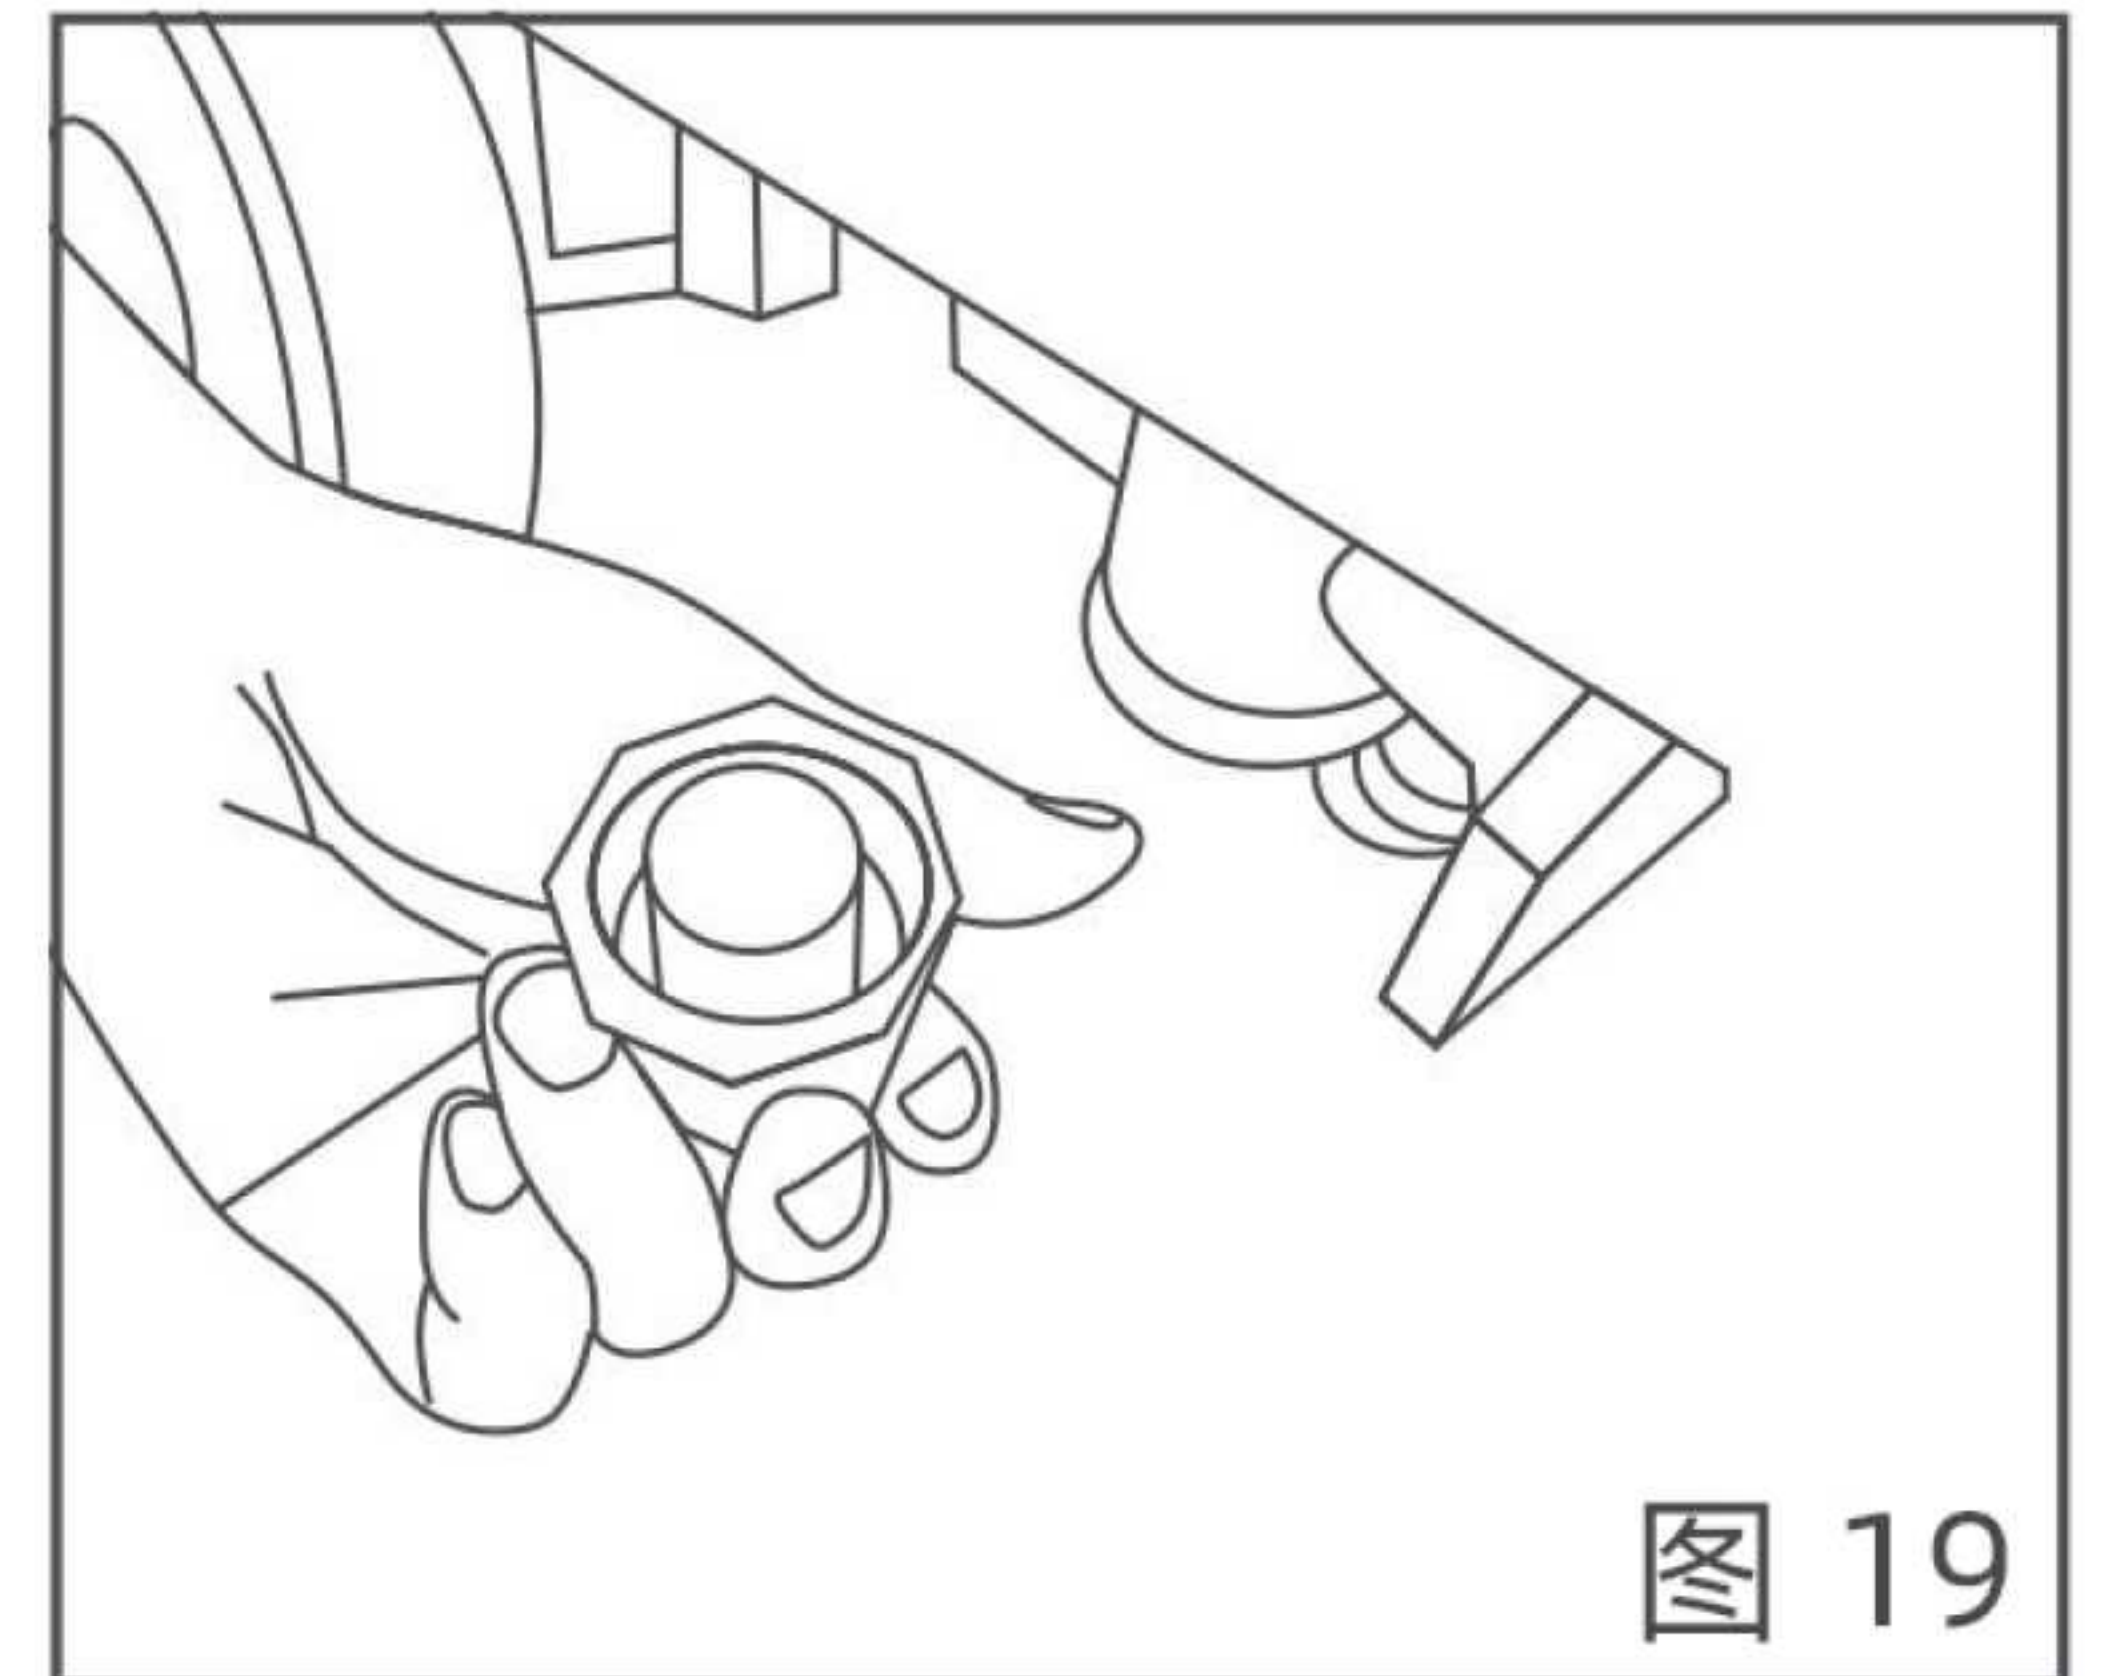

图 19
- 先排空清水箱内所有液体，从机器下方拆下清水过滤器（图 19）并清洗。
First empty all liquid in the clean water tank, remove the clean water filter from under the machine (Figure 19) and clean it.